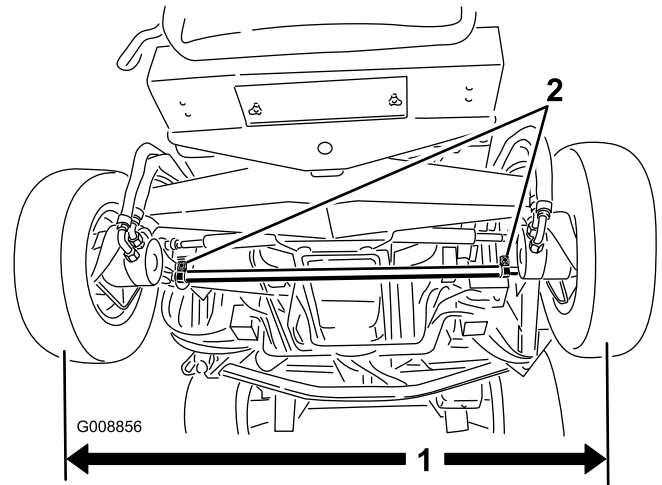

Figure 76
1. Measure the center-to-center distance (at axle height) at the front and rear of the steering tires (Figure 76).
2. To adjust, loosen the clamps at both ends of the tie rods (Figure 76).